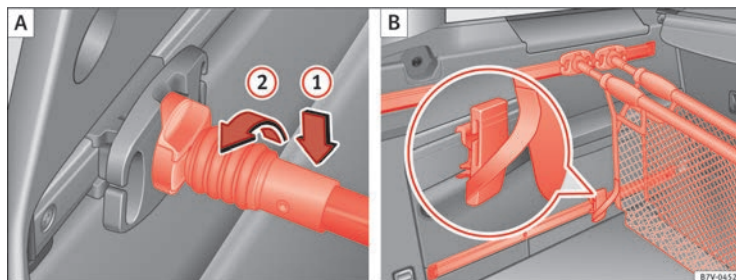

Fig. 98 Hook the baggage net (A) and use it as a bag (B)
Place the attachment rod on the baggage net support ⇒ Fig. 98  and rotate 90° to the left . The red mark on the attachment rod should not be visible ⇒ .
- Hook the baggage net attachment strap underneath into one of the movable attachment elements ⇒ Fig. 98 .